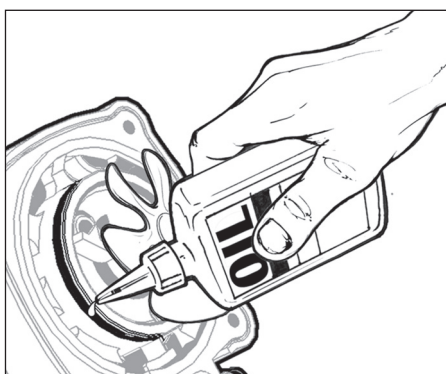

Figure 9
5. Reinstall the o-ring, and thoroughly lubricate with the provided oil from the case. Make sure oil is applied evenly around entire o-ring (see Figure 9). Use a clean cloth to wipe up any excessive oil.